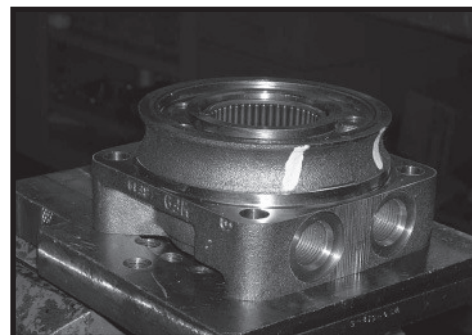

Figure 42
4. Place housing (18) assembly into a soft jawed vise with the coupling shaft bore down, clamping against the mounting flange. SEE FIGURE 42.